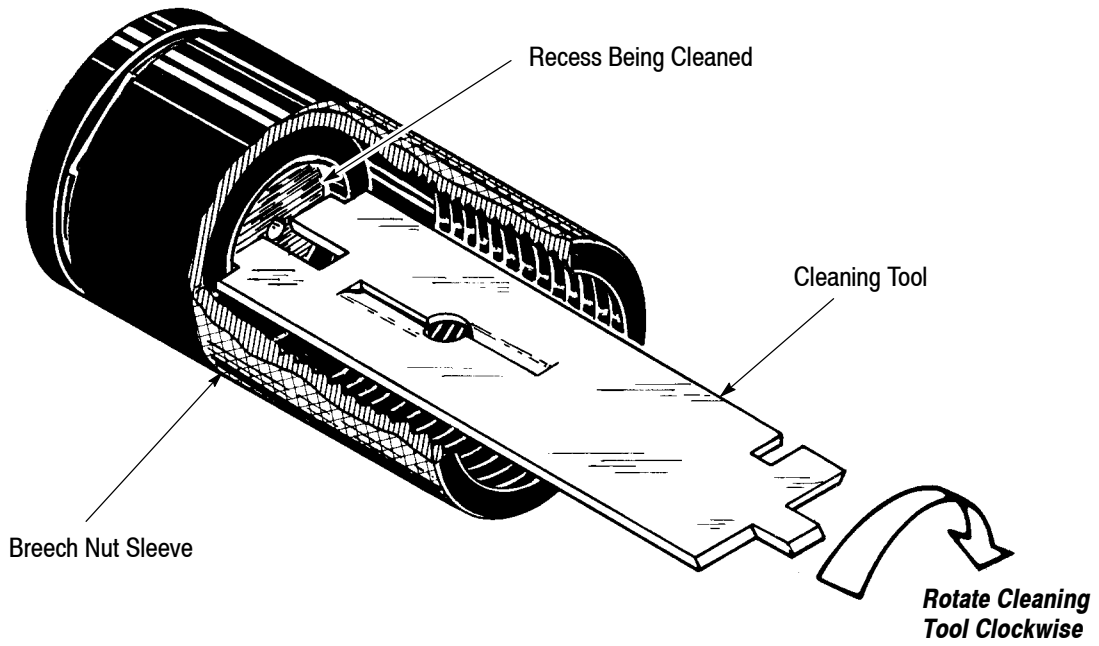

Figure 42
- e. Insert the cleaning tool into the front of breech nut sleeve and rotate tool clockwise to remove carbon deposits and plastic "blow-by." See Figure 42.